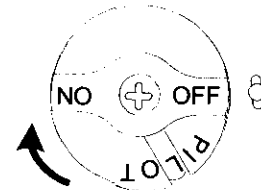

Figure 1
1. Press fryer ON/OFF power switch to OFF. See Figure 1.